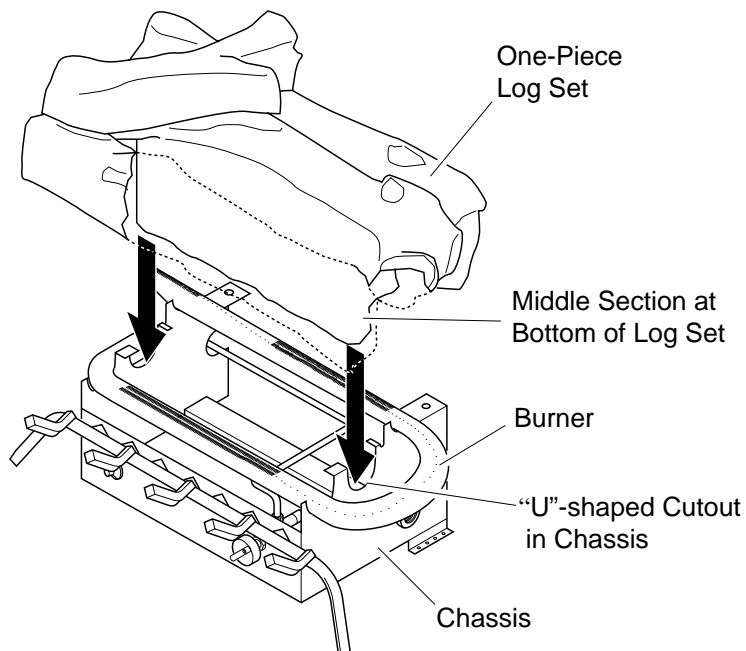

Figure 20 - Installing Premium One-Piece Log Set
1. Place one-piece log set on grate to fit as illustrated in Figure 20. Make sure middle section at bottom of log set is seated into “U”-shaped cutout in center of chassis (see Figure 20). Log will fit securely on chassis. **IMPORTANT:** Make sure log does not cover any burner parts.